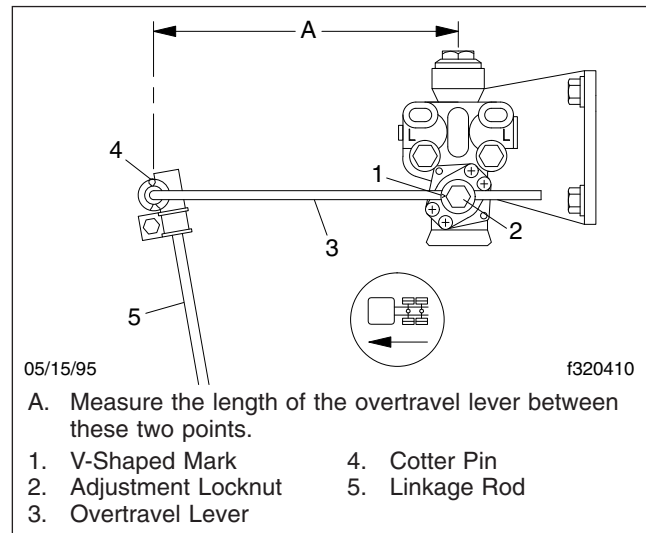

Fig. 6, AirLiner Overtravel Lever and Linkage Rod Measurement
3. Check the length of the overtravel lever between its pivot points. See **Fig. 6**, Ref. A.